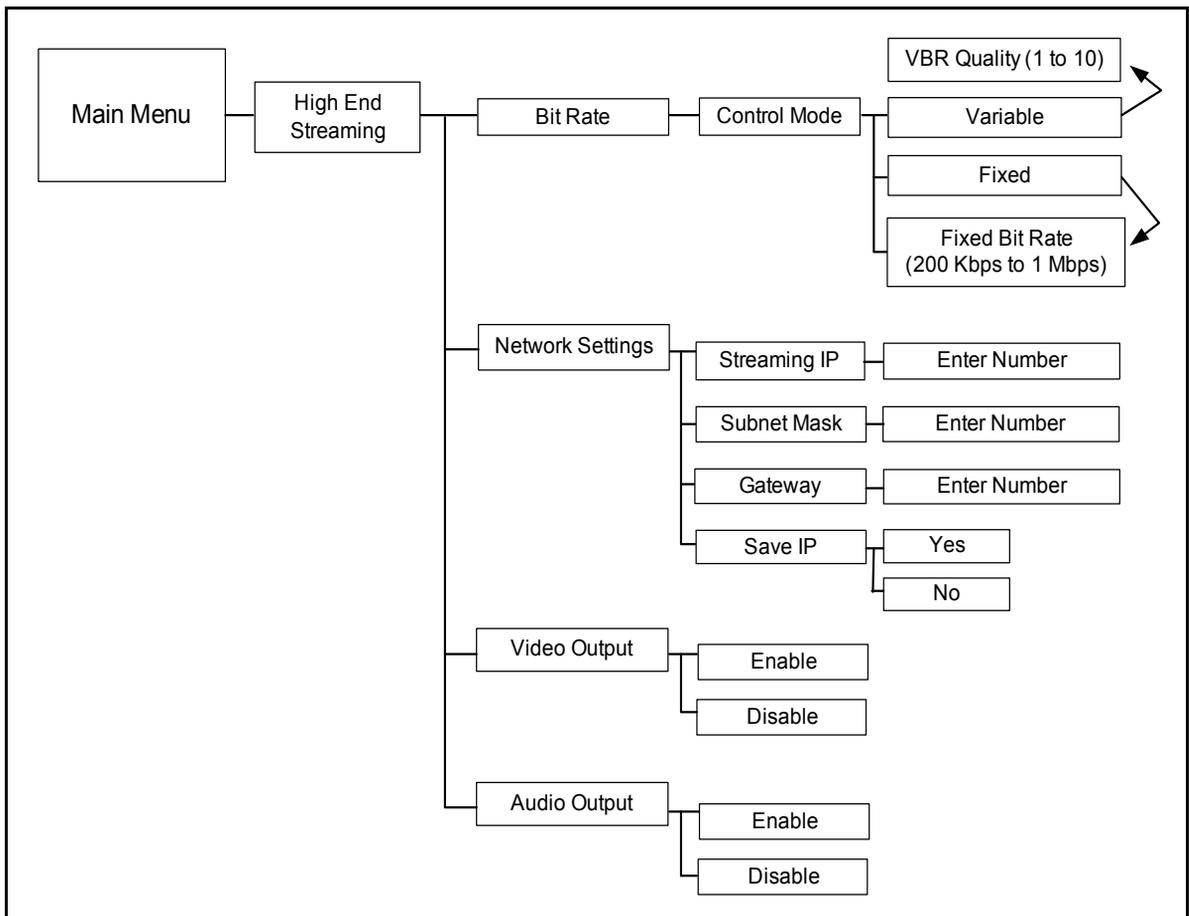

Figure C-31. Streaming Module Settings
- Make the necessary **Gateway**, **Subnet Mask**, and **IP Address** settings in the **Network Settings** parameters, as shown in Figure C-31 on page 345, and then select **Save IP > Yes**.